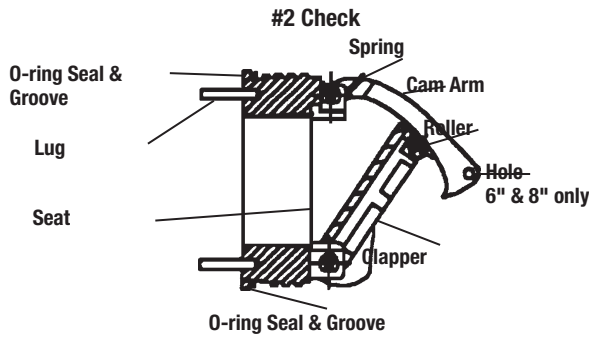

Figure 2
Slowly pull the assembly outward to open check allowing exposure of the seat and clapper contact area for cleaning. To clean #2 Check, lift Check Arm and hold in open position. Raise clapper so that the end of the Check Arm rests between roller and clapper (Figure 2). Thoroughly clean the seat area and clapper sealing surfaces of both Checks. Inspect seats, clapper sealing surfaces, Check Arms, and O-rings for damage. If not damaged gently close the clapper. If damaged, install a new Check assembly and/or O-ring.
#1 Cam-Check Figure 2
- #1 Check (Fig.2)** Using a  $\frac{1}{16}$ " socket wrench or nut driver, remove the four nuts from the #1 check studs (See fig. 1) Using two hands, place them at 12 o'clock and 6 o'clock, wiggle the check assembly free. Remove through access port with back of clapper first with back of clapper first with spring end down. Pull check assembly out of main body.